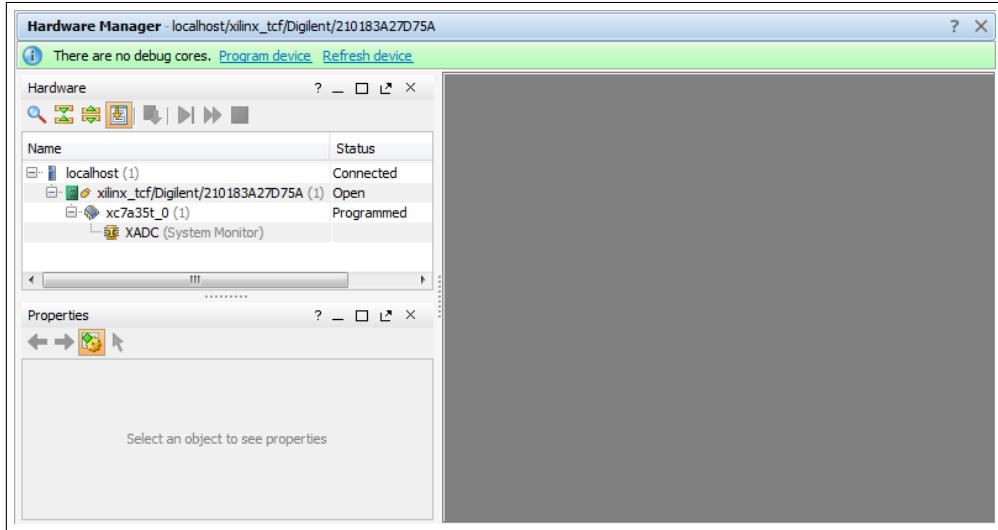

Figure 6.11: Hardware Manager Window
1. Under “Hardware Manager” in the “Program and Debug” section of the “Flow Navigator”, select “Open Target” then “Auto-Connect”. Now the Hardware Manager should open with a “xc7a35t” device listed, as seen in Figure 6.11.